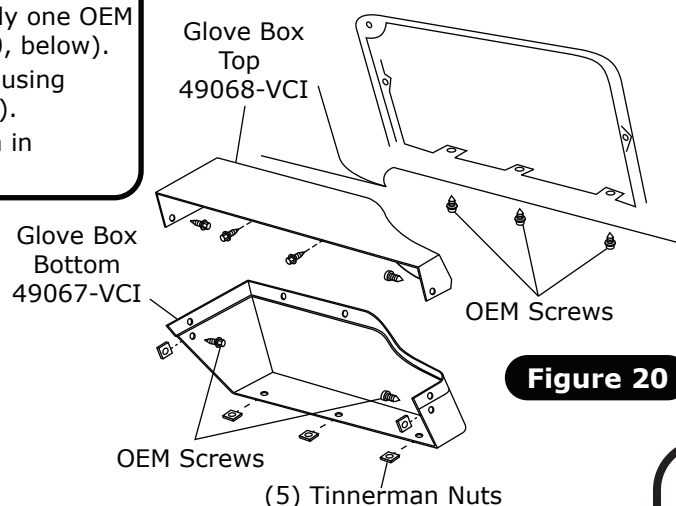

Figure 20
7. Install new glove box as shown in Figure 20, below.
1. The new glove box is made in (2) pieces for easy installation. Install (5) #8 U-nuts in glove box bottom.
2. Insert bottom half of new glove box, securing with only one OEM screw on each side through dash holes (See Figure 20, below).
3. Insert top half of glove box and fasten to bottom half using (4) #6 X 3/8" pan head screws (See Figure 20, below).
4. Install glove box door using (3) OEM screws as shown in Figure 20, below.